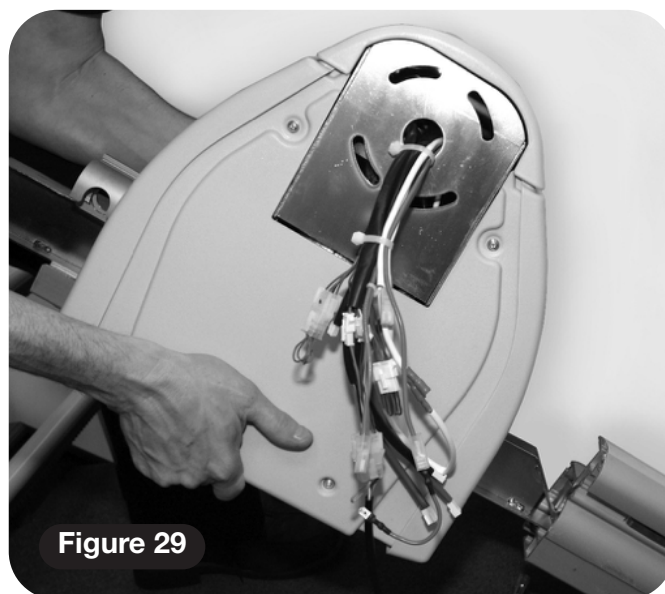

Figure 29
- 8 Carefully locate the power unit/loading bar on to the track **(Figure 29)**.